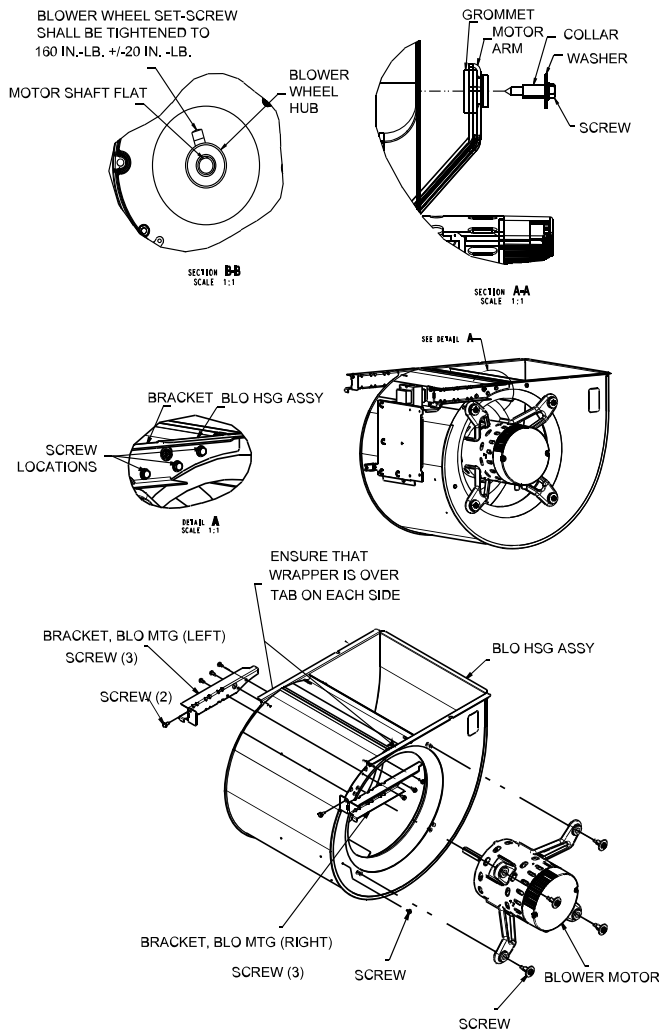

Fig. 68 – Blower Assembly on 66100M21
6. On 66100M21 size, the top screw securing blower to shelf must be removed in order to remove the blower (Fig. 68). Clean blower wheel and motor by using a vacuum with soft brush attachment. Be careful not to disturb balance weights (clips) on blower wheel vanes. Do not bend wheel or blades as balance will be affected.
15. On 66100M21, ensure that the blower wrapper sits on top of the two tabs on blower sidewalls (Fig. 68). Reconnect blower leads to furnace control. Refer to furnace wiring diagram, and connect thermostat leads if previously disconnected.